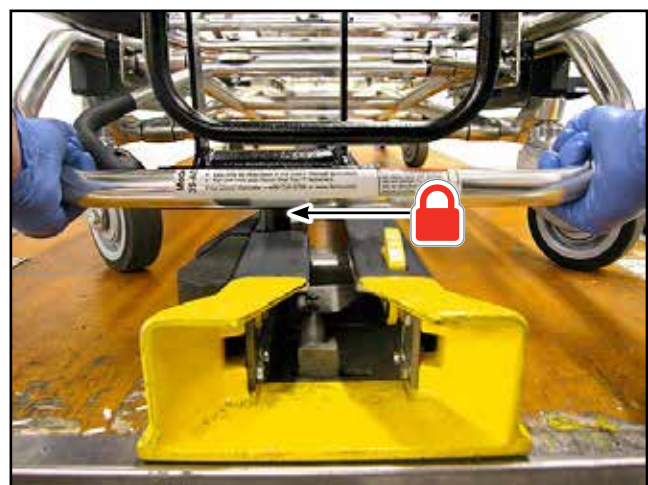

Figure 6 - Locking the Cot in the Stat Trac
8. Slide the foot end of the cot to the left to engage the foot-end loading post in the cot lock (Figure 6).